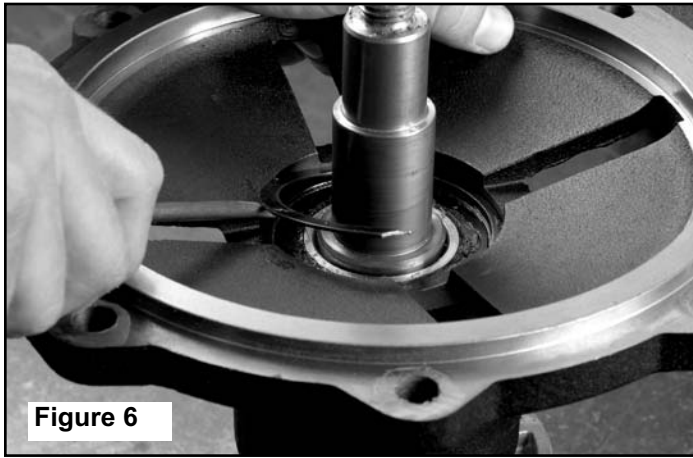

Figure 6
2. Remove slinger from shaft. Use a screwdriver to pry and guide the snap ring out of the mounting flange (See Figure 6).